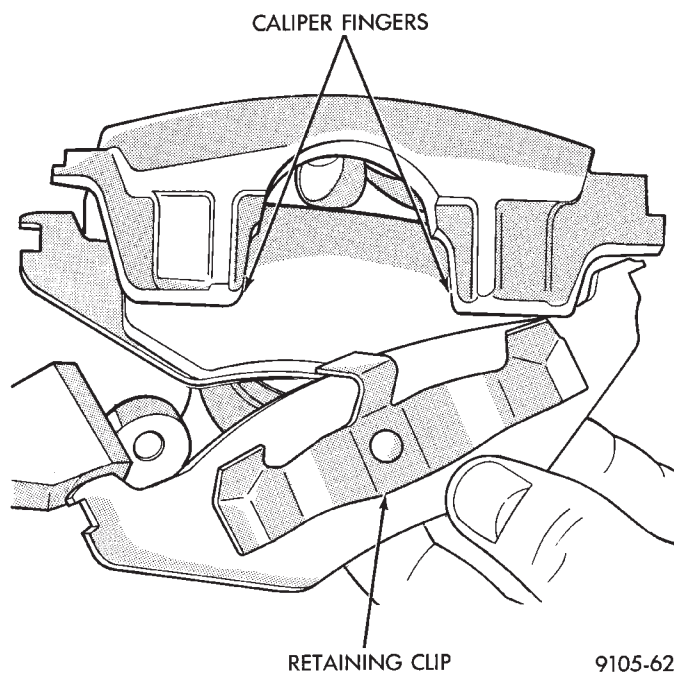

Fig. 5 Removing Outboard Shoe
(7) Remove outboard brake shoe, by prying brake shoe retaining clip over raised area on caliper. Then slide the shoe down and off the caliper (Fig. 5).